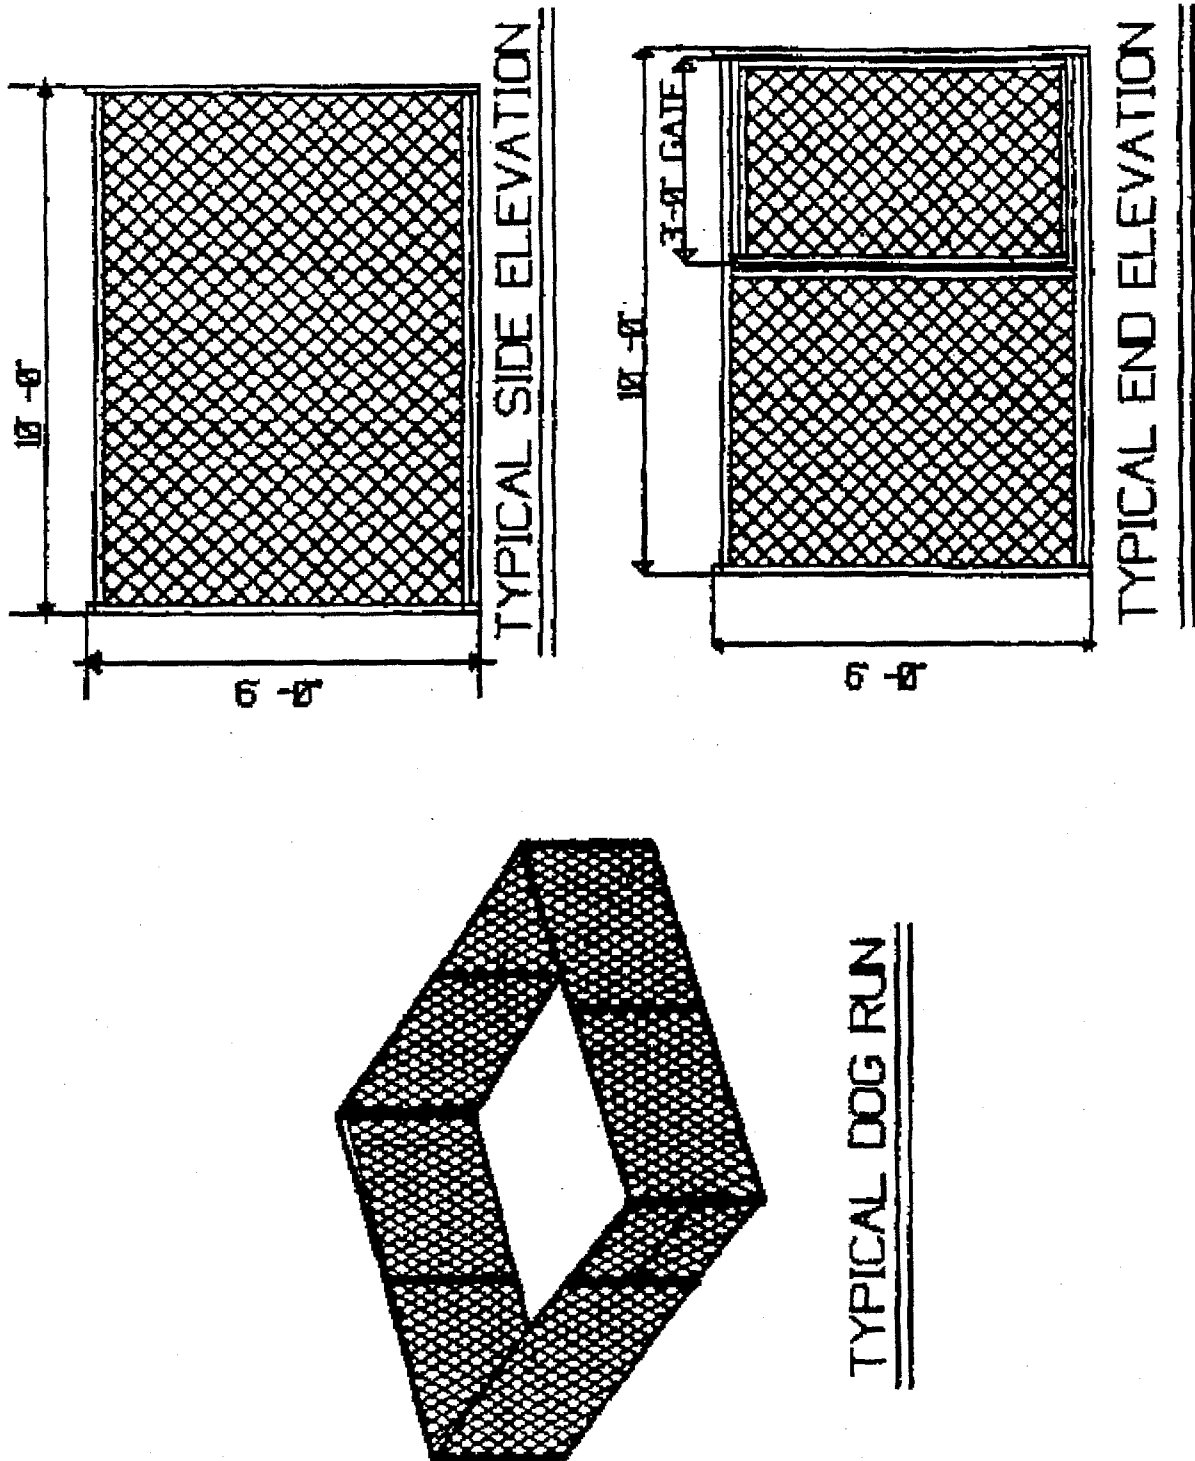

Figure A-4. Engineer Drawing F-11123 – Illustration of Dog Run
(4) Dog runs. Dog runs will conform to Engineer Drawing F-11123 (Figure A-4). Dog runs must be portable, must be moved often enough to prevent damage to the lawn, will not come in contact with or be connected to exterior siding on the quarters, and will not exceed 10 by 10 by 6 feet in height.
(5) Lattice screens. Lattice type screening is authorized for front porch areas and will not enclose entire front porch. Lattice trim must be painted white, natural wood, or match the exterior trim on the quarters. Permits for lattice screening must be applied for in the same manner as fencing.
(6) Prichard Place. Chain link type fence is the only type of fencing authorized. Chain link fence will conform to Engineer Drawing F-11123, and will be 4 feet in height. Commercial type metal round posts will be used. Posts will be placed in the ground at least every 10 feet. Posts shall be placed 10 feet on center. All fences will be located in the rear or, in some approved cases, to the side of the quarters as long as the fence does not go beyond the front of the quarters. Fences will not enclose any part of community property such as sidewalks, etc.